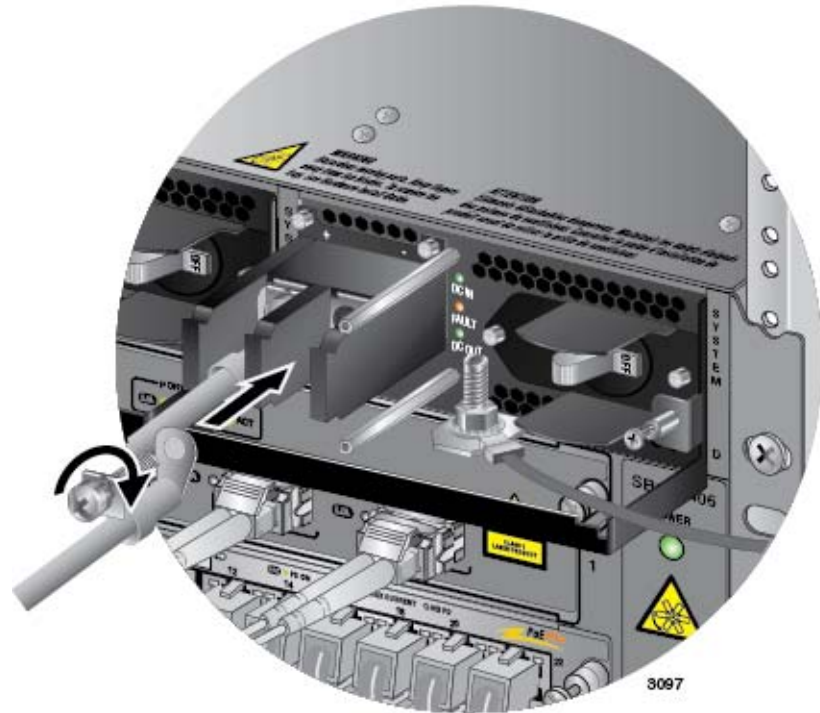

Figure 136. Connecting the Negative (-) Power Wire with a Right Angle Terminal
7. With a #3 Phillips-head screwdriver, connect the negative (-) power lead wire to the negative terminal on the power supply, with the remaining terminal screw removed in step 5. The negative terminal is on the right. Refer to Figure 136 on page 193.